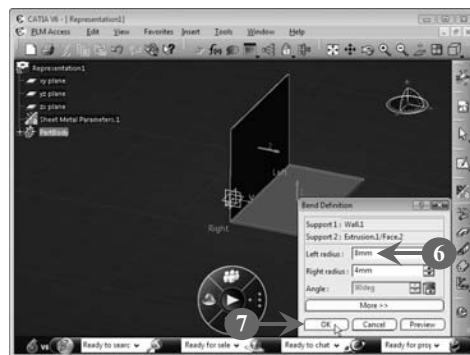

FIGURE 6.50
The selected wall is added to the **Bend Definition** dialog box (**Figure 6.50**).
6. Set options, such as left radius and right radius, for the bend to be created in the **Bend Definition** dialog box (Figure 6.50). In our case, we have set the left radius for the bend as **8 mm**.
7. Click the **OK** button to close the **Bend Definition** dialog box, as shown in Figure 6.50: